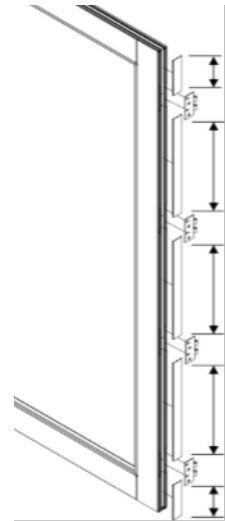

Figure 11
18. Measure the lengths of exposed panel along the hinged side - between the top of panel to the first hinge, between each hinge, and between the bottom hinge and the bottom of the panel (Figure 11).